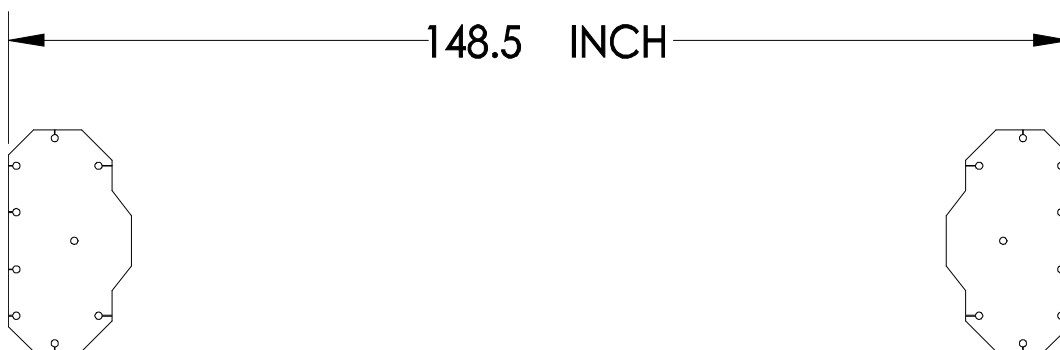

FIG. 1
1. Placement of lift should be at least 12' from nearest obstacle, front to rear, plus any desired aisle or work area between vehicle and obstacle such as garage door, work bench, etc. Place a chalk line at the selected location, erect both columns in their respective locations outside baseplate to baseplate and square to chalk line. The control column may be placed on either side. (See Fig. 1).
4. Confirm correct column placement dimension (See Fig. 1).